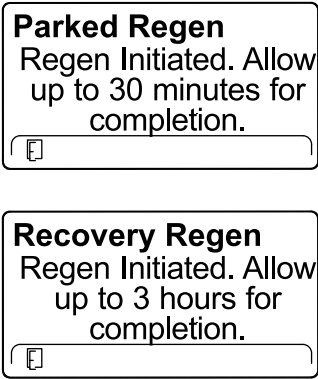

Figure 61
6. The InfoCenter displays the time to complete message (Figure 61).